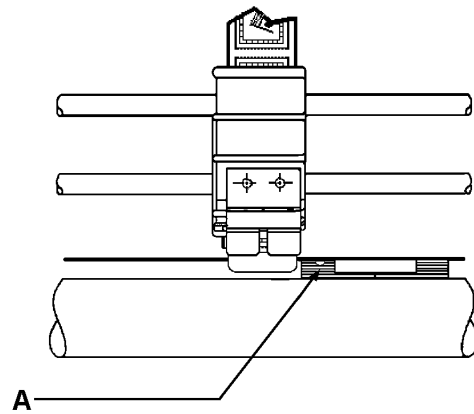

Figure 8
8. Disengage Label Advance Rollers **[Figure 8-A]** by turning **LABEL PRESSURE KNOB** clockwise to **OFF** position **[Figure 8-B]**.
13. Slide guide spring with Media Sensor to a position to the left of Stamp Sensor Guide [Figure 8].